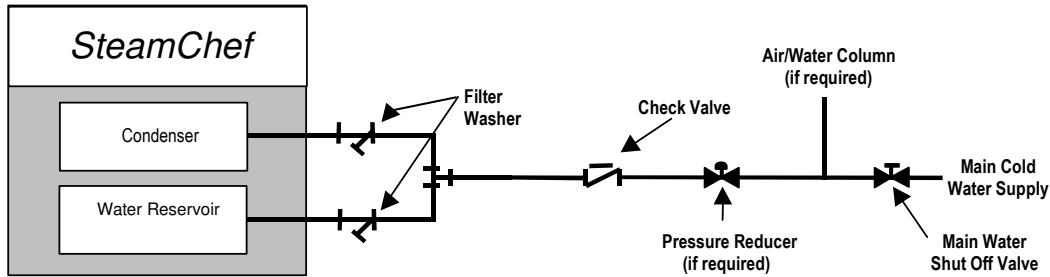
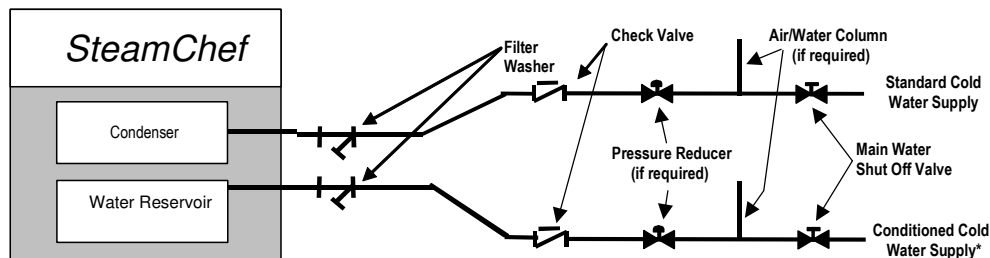

Figure 3-4 Cleveland Range Single Water Supply Arrangement
Figure 3-5 Cleveland Range Separate Water Supply Arrangement
- d. If the water supply meets requirements shown in the Warranty then the Single Water Supply Arrangement shown in Figure 3-4 may be used.
- e. If the water supply fails to meet the requirements shown in the Warranty then use the Separate Water Supply Arrangement shown in Figure 3-5.
- 5) Cleveland Range recommends the plumbing layout in either Figure 3-4 for installations using a single water supply or Figure 3-5 if a separate conditioned water supply is used for the steam generator reservoir feed.
- Use two (2) 3/8" supply lines for a separate conditioned water supply. See Figure
- Use one (1) 1/2" supply line for a single water supply. Use the Single Point Water Connection Kit (cold water supply splitter) (P/N 111009).
11. Refer to Figure 3-5: Connect the drain.